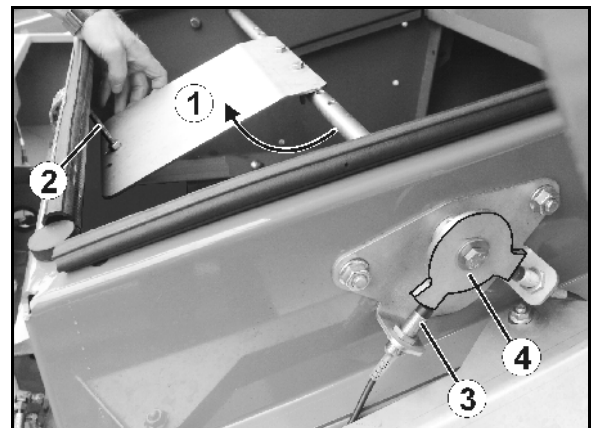

Fig. 80
3. Check the butterfly valve (Fig. 80/1) for ease of movement and adjust the adjustment rings if necessary.
The limit stop of the control butterfly valve is adjusted by means of the screw (Fig. 80/2) If the control butterfly valve is moved to the limit stop, the impulse disc (Fig. 80/4) must cover the sensor (Fig. 80/3).